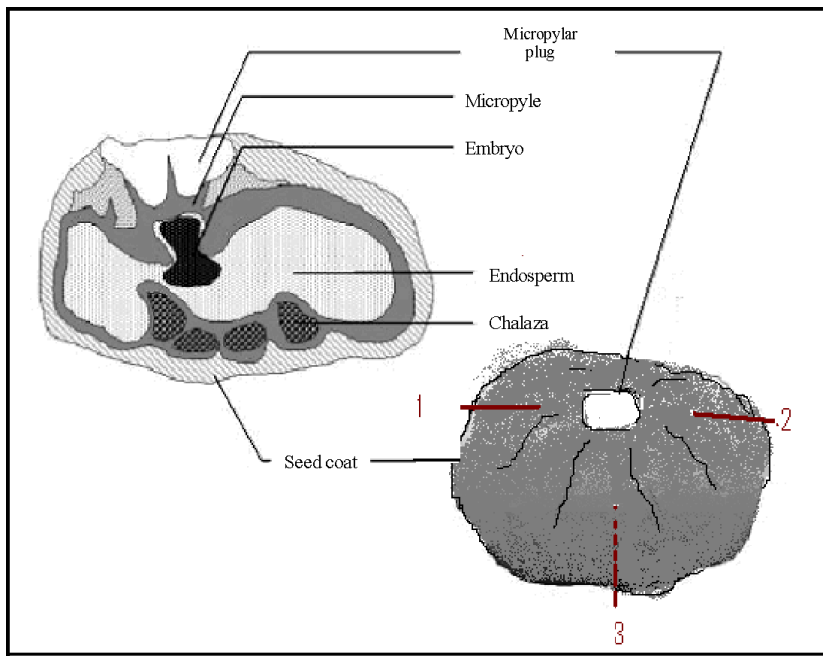

Figure 1 Longitudinal cut of a banana seed showing location of the embryo and three incisions
- Using a scalpel blade no 11, cut at one end (1) as shown (Figure 1). Note that the embryo is located just beneath the micropylar plug and avoid cutting close to it.